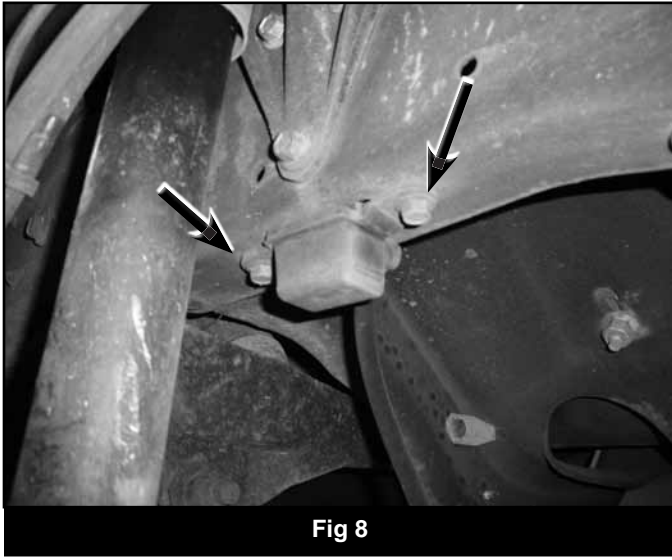
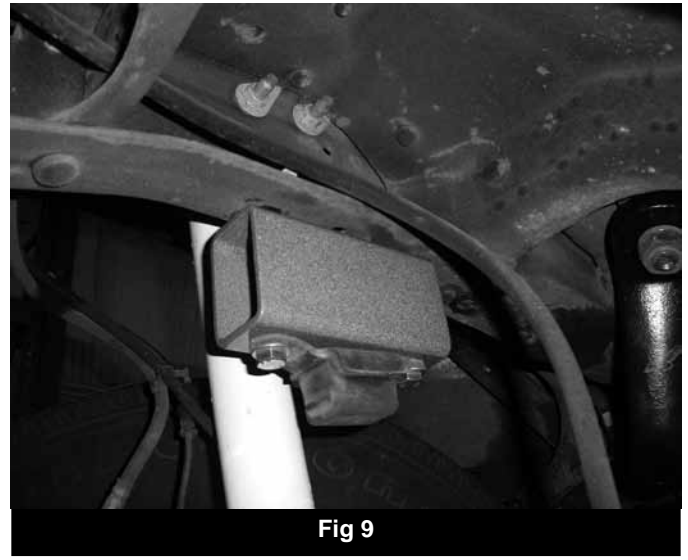

Fig 8
Fig 9
19. Remove the factory front bump stops from the frame rails (Fig 8). Locate the provided rectangle bump stop spacers (01027) and place between the factory bump stops and the frame rail. Align the holes in the bump stop and spacer with the original frame mounting holes and fasten with the provided 10mm x 110mm bolts and washers (BP 441) into the captive nuts in the frame (Fig 9) . Use Loctite on the bolt threads and torque bolts to 30 ft-lbs.